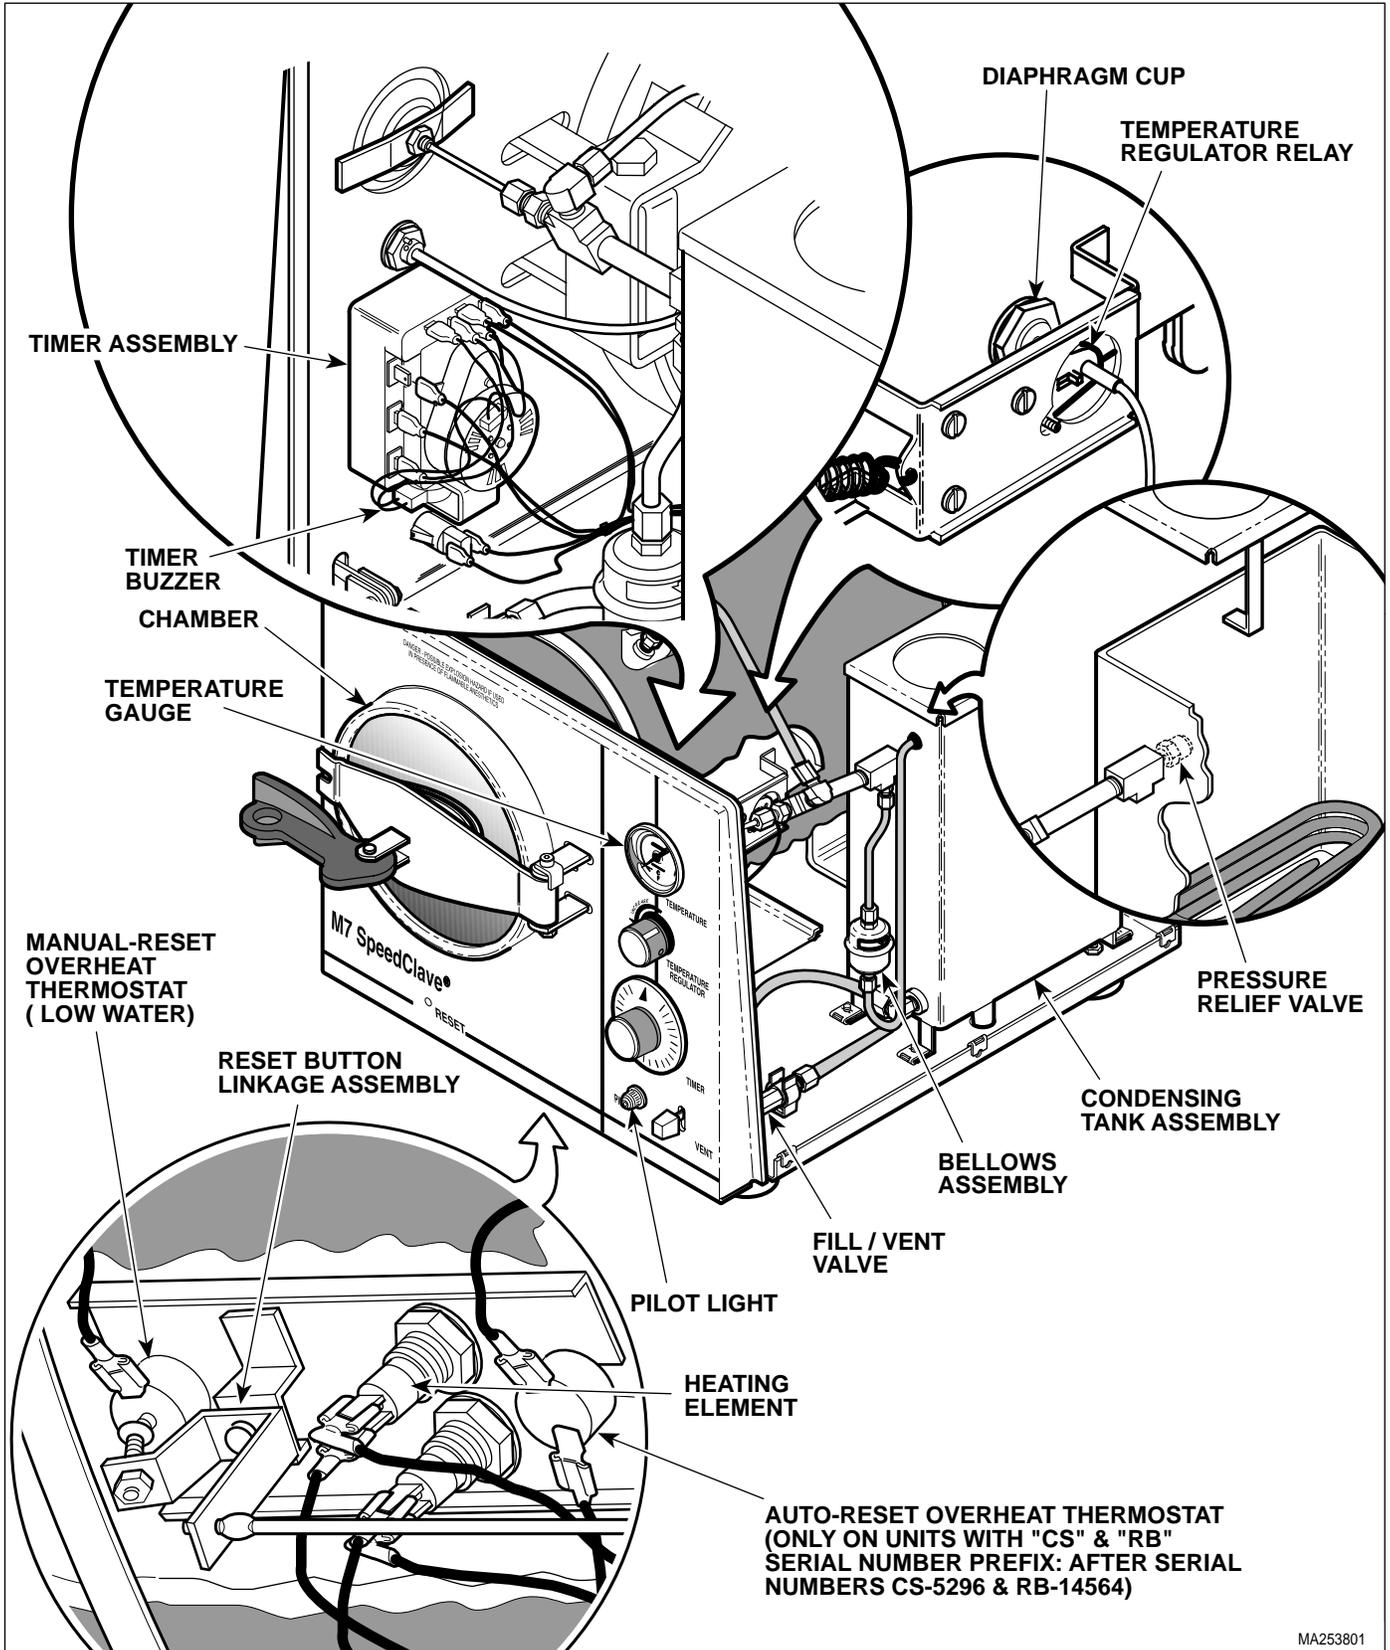

Figure 1-1. Major Components
- A. General Description (See Figure 1-1).